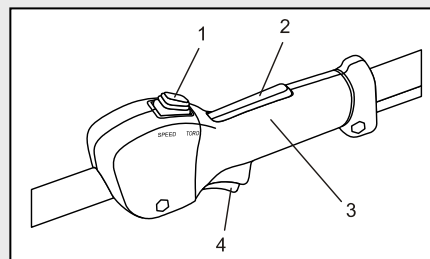

Fig. 10
To start the tool, squeeze the lock-off switch (2) into the rear handle (3) (Fig. 10). While squeezing the lock-off switch, squeeze the ON/OFF trigger switch (4). To turn the tool OFF, release both motor control switches.